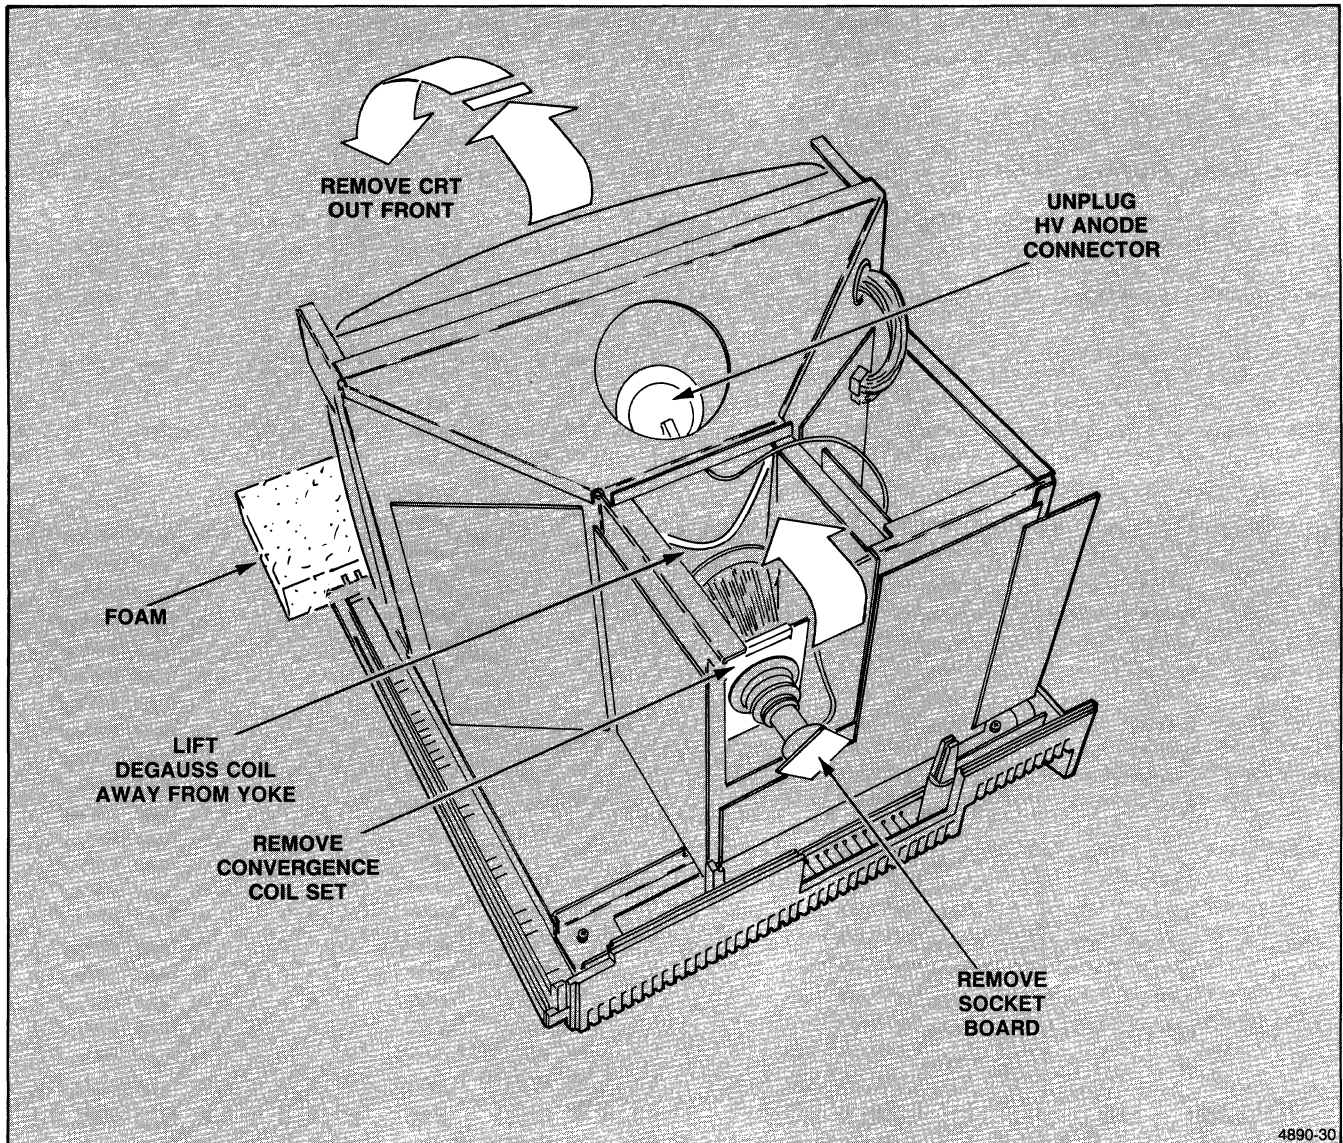

Figure 6-11. Removing the CRT.
15. Rock the crt forward as shown in Figure 6-11. Then pull the crt out of the front of the Display Module, and lower it onto the protective pad.